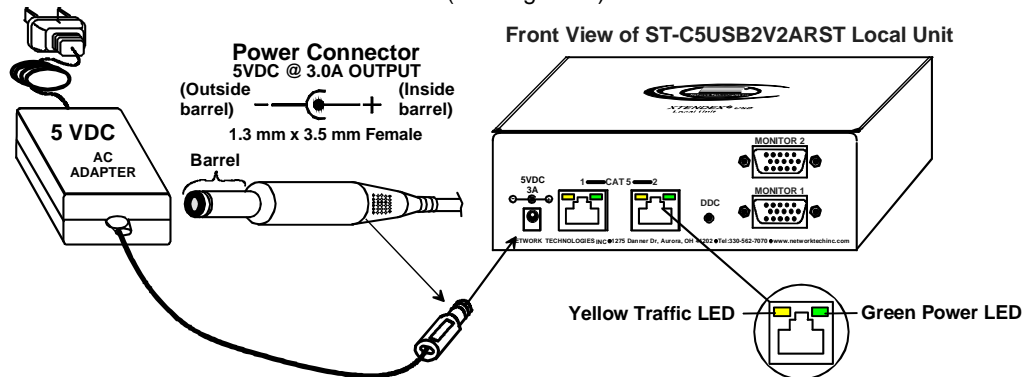

Figure 6- Connect the AC adapter(s)
2. Connect each AC adapter power connector to the 5VDC ports on the Remote and Local Units. (Model ST-C5USBVT only has a power supply at the Remote Unit. The Local Unit is powered by the CPU.) Plug each AC adapter into a power outlet. The green LED on the RJ45 connector of both the Remote and Local Units should illuminate, indicating that a proper power connection has been made to them. (See Figure 6.)
3. Turn ON the CPU and Monitor(s). They should each react as if they were directly connected to each other. **Note:** The yellow LED on RJ45 connector “CAT5 #1” will illuminate and “CAT5 #2” will blink anytime data traffic is passing between the Local and Remote Units, indicating proper CAT5 cable connection and communication. (See Figure 6)